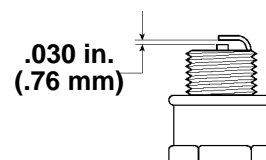

Figure 27
5. Set the gap on the new plug to 0.030 in. (0.76 mm) (Fig. 27).